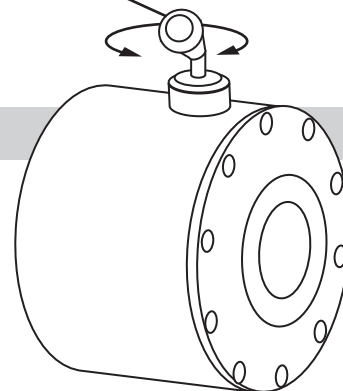

FIGURE 7
Turn clutch handle to the disengage position shown on decal (FIGURE 7). **NEVER RELEASE FREE-SPOOL CLUTCH WHEN THERE IS A LOAD ON THE WINCH. DO NOT FORCE THE HANDLE.** Release tension on the clutch by winching out some of the wire rope. Release the clutch and pull out the wire rope and secure to anchor or load. Check that there are at least five (5) wraps of wire rope left on the drum. Re-engage the drum by returning the clutch handle to the engaged position. (FIGURE 7)
Step 6 Turn the freespool clutch handle to the Disengage position (**See FIGURE 7**). Pull 5 feet of wire rope off the drum. Return the freespool clutch handle back to Engaged position. Activate the Winch cable in and out by momentarily pressing the hand held switch to check drum rotation direction. The switch is labeled "IN" for winching in and "OUT" for winching out. When released the switch will automatically go to the off position. **IF THIS DOES NOT OCCUR THEN TAKE THE PLUG OFF THE RECEPTACLE.**